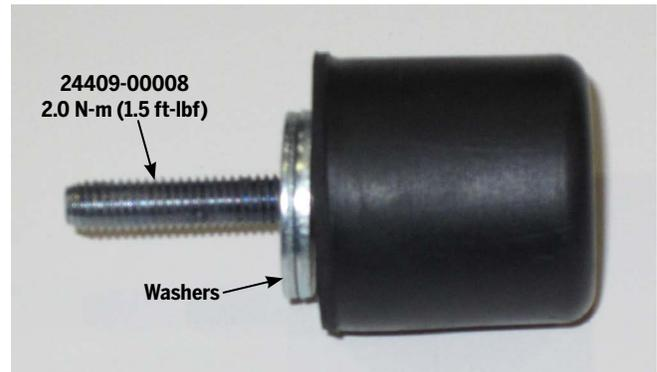

Figure 67: Assembled Battery Bumper
2. Assemble the Battery Bumper. Slide the fastener through the bumper, then slide washers onto the fastener. See **Figure 67**.